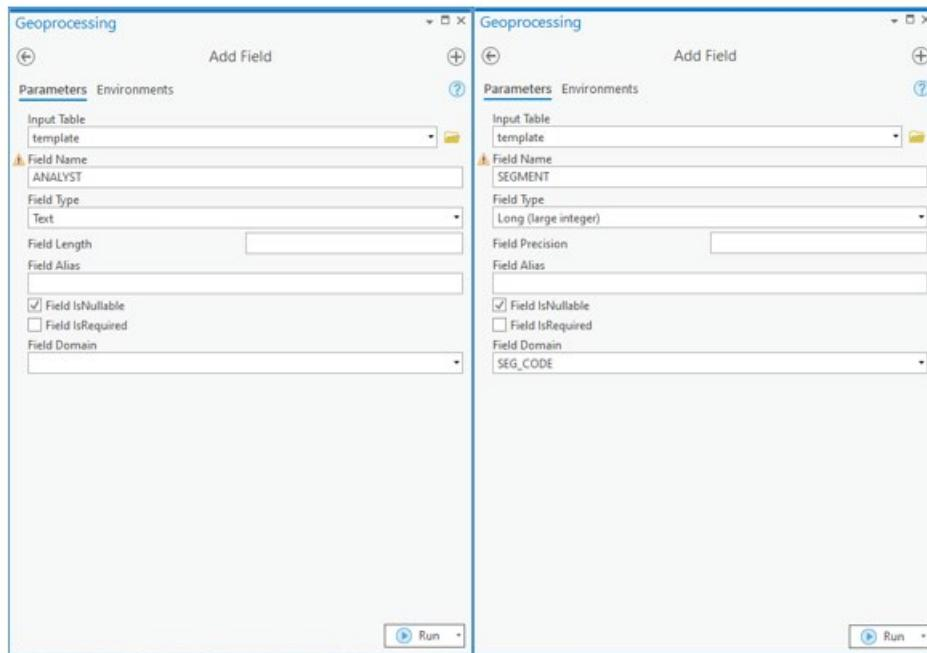

Figure C 2 Screenshots of the Add Field tool in ArcGIS Pro.
2. Create a table in Excel that will be converted to your domains in the GDB. This step will create the attribute domains you will have in the geodatabase. Attribute domains are rules in a geodatabase used to constrain the values allowed in any particular attribute for a table or feature class within, which will let the analyst utilize a standard dropdown menu. We use short codes that make conversion into our data cloud easier, although these can be full names according to what you are surveying (Figure C 1). Name this table according to the geodatabase you are creating (we name according to location and year for better organization e.g., HARAMP2019_codes; Figure C 2).
8. Add appropriate fields to the template polyline feature class and apply domain if applicable (these will be your drop down menus) using 'Add Field' (Data Management) tool (Figure C 2).